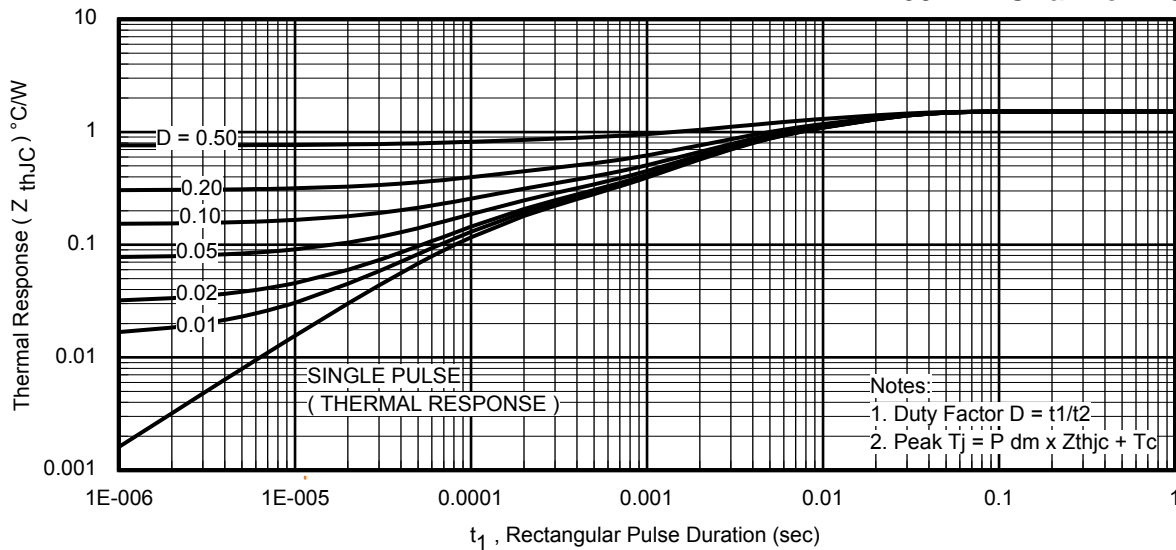

Fig 14. Maximum Effective Transient Thermal Impedance, Junction-to-Case
7. ΔT = Allowable rise in junction temperature, not to exceed T_{jmax} (assumed as 25°C in Figure 14, 15).
$Z_{thJC}(D, t_{av})$ = Transient thermal resistance, see Figure 14)